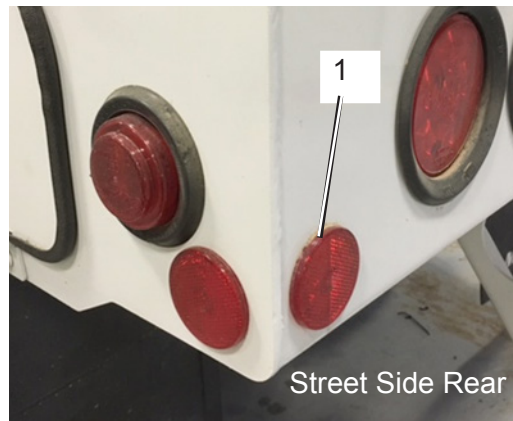

Figure 4
5. Install that reflector on the rear facing street side corner of the CNG tailgate (Figure 4), as close to the rear corner as practical.